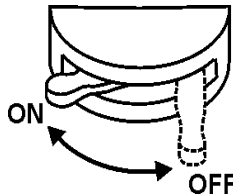

Figure 60. Battery ON/OFF Switch
20. Set the **battery ON/OFF switch** (Figure 60) to the **“ON”** position.